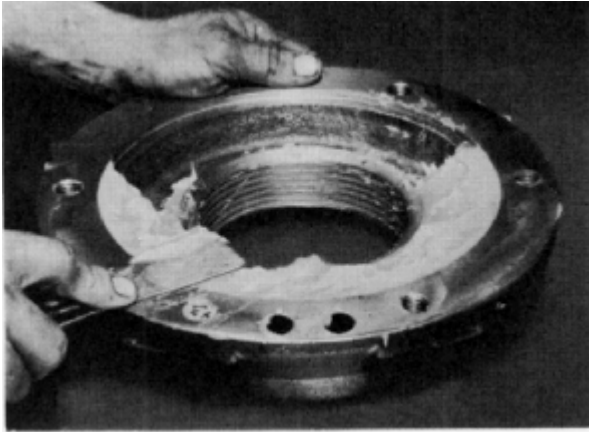

Fig. 4 - Roughly Formed Grease Contour
- Using spatula, roughly form the grease into the approximate desired contour, Fig. 4, and apply correct grease mask as determined from the Service Data.